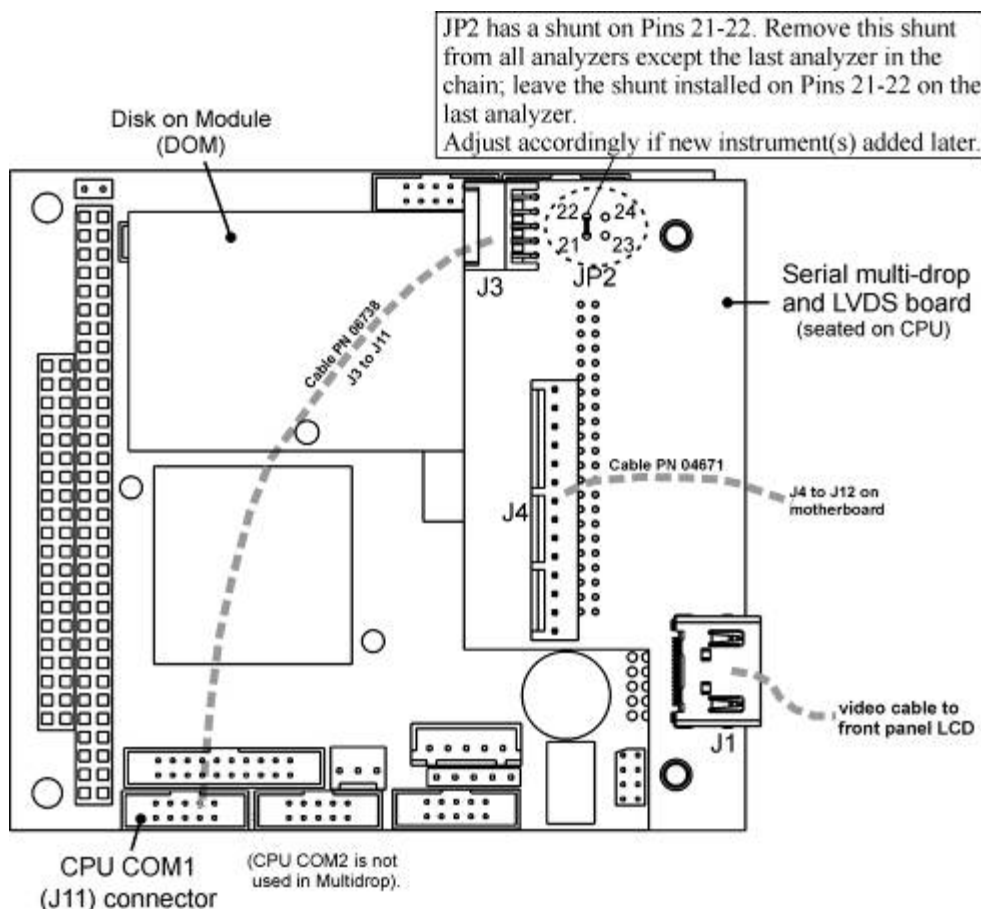

Figure 2-16. Jumper and Cables for Multidrop Mode
In each instrument with the Multidrop option there is a shunt jumpering two pins on the serial Multidrop and LVDS printed circuit assembly (PCA), as shown in Figure 2-16. This shunt must be removed from all instruments except that designated as last in the multidrop chain, which must remain terminated. This requires powering off and opening each instrument and making the following adjustments:
2. On the Multidrop/LVDS PCA's JP2 connector, remove the shunt that jumpers Pins 21 ↔ 22 as indicated in Figure 2-16. (Do this for all but the last instrument in the chain where the shunt should remain at Pins 21 ↔ 22).
3. Check that the following cable connections are made in all instruments (again refer to Figure 2-16):